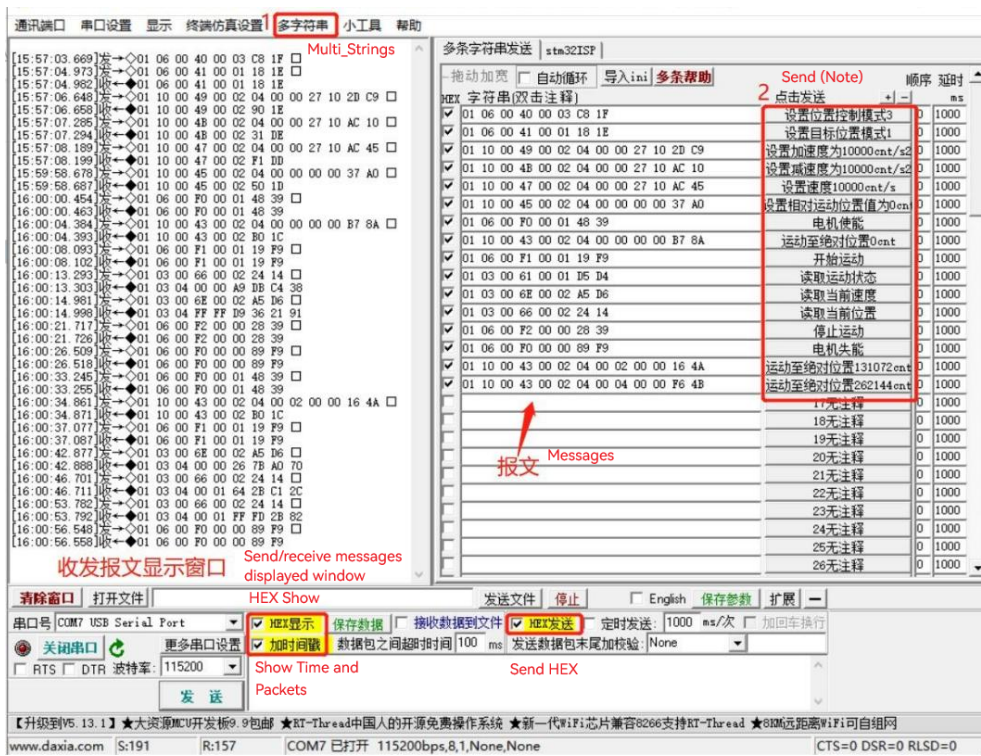

Figure 6-2 Send/receive messages of RS485 serial PC
- Step 3 As shown in Figure 6-2, click “HEX Show”, “Send HEX”, and “Show Time and Packets”. Click “Multi\_Strings” the “Send (note)” interface pops up at the right. Click the commands successively, and the left window will display the sent messages, received messages and time stamp. Check the data of response messages and the motion status of eRob rotary actuator can judge whether the communication is normal.